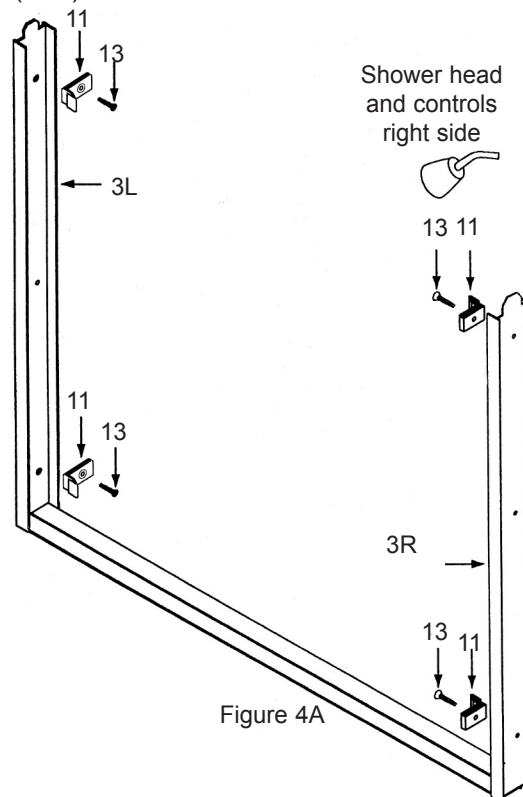
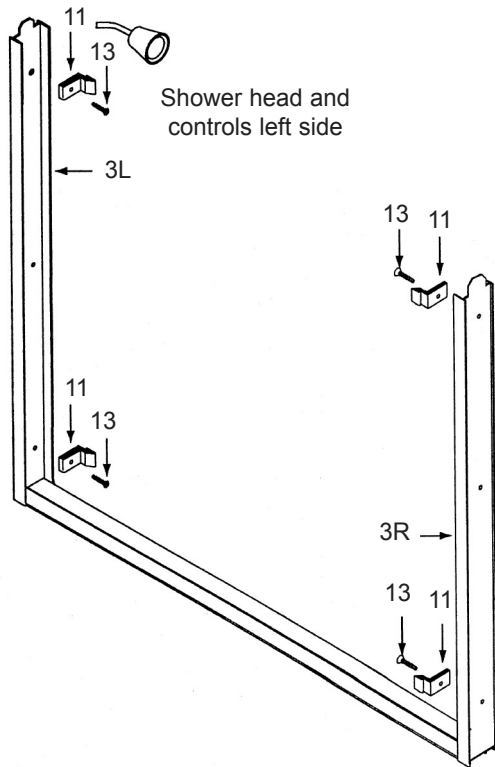

Figure 4A
Figure 4B
- A. See Figures 4A and 4B to position the Panel Locator (#11). If the shower head is on the right wall, refer to Figure 4A to position the Panel Locator (#11). If the shower head is on the left, refer to Figure 4B. Secure with a #8 x 1-1/2" FH SMS Screw (#13).